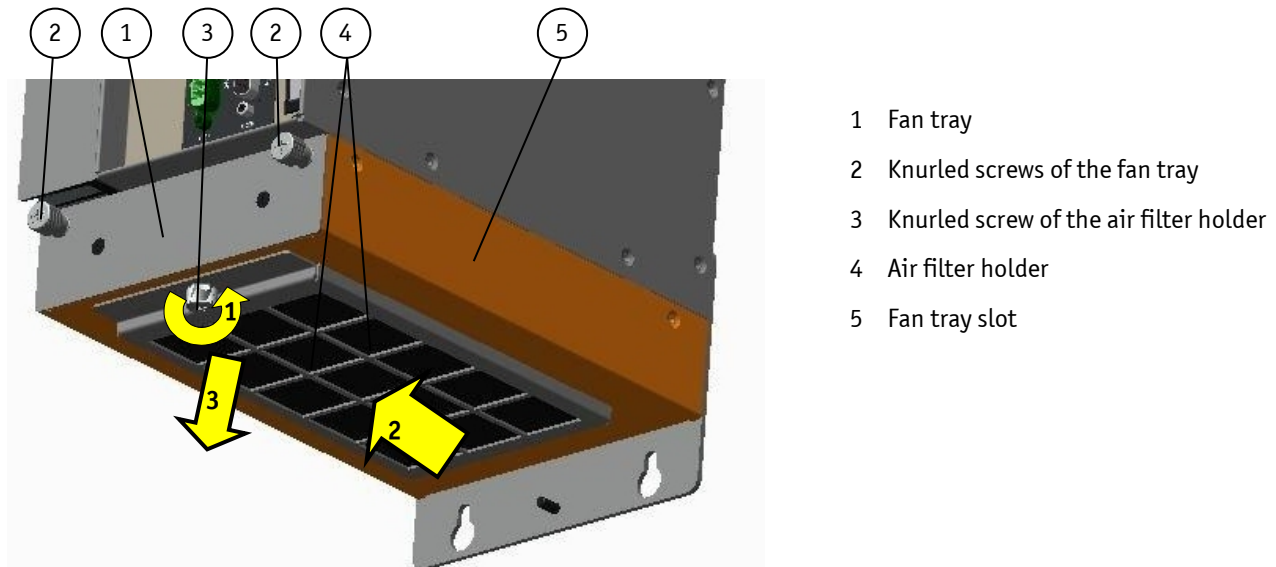

Fig. 53: Fan tray extension (detail: shown as KBox C-101-1)
1. Ensure to have access to the bottom side of the KBox C-101-2/-1. The fan tray (Fig. 53, pos. 1 and Fig. 54, pos. 2) may be replaced without removing the air filter holder (Fig. 53, pos. 4).
2. Loosen the two knurled screws (Fig. 53, pos. 2) of the fan tray.
7. Secure the fan tray by fastening the knurled screws (Fig. 53, pos. 2). By fastening of the knurled screws the proper insertion of the fan tray into the internal socket (Fig. 54, pos. 10) is ensured.
1. Ensure to have access to the bottom side of the KBox C-101-2/-1. The air filter may be replaced without removing the fan tray (Fig. 53, pos. 1).
2. Loosen the knurled screw (Fig. 53, pos. 3) that secures the air filter holder (Fig. 53, pos. 4) to the fan tray slot (Fig. 53, pos. 5); refer to step 1 in Fig. 53.
3. Pull the air filter holder out of the positioning holes, (Fig. 54, pos. 9) into the marked direction (see Fig. 53) and pull it down. Put the air filter holder aside for later reassembly; refer to step 2 and 3 in Fig. 53.
4. Remove the soiled air filter (Fig. 53, pos. 3 and Fig. 54, pos. 6).
8. Secure the air filter holder by tightening the knurled screw to the tapped hole (Fig. 54, pos. 4) of the fan tray slot (Fig. 53, pos. 5 or Fig. 54, pos. 3).